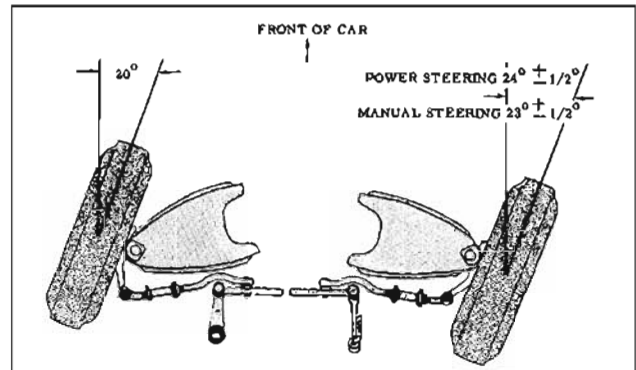

Fig. 9-33 Front Wheel Toe-Out
4. TOE-OUT (STEERING GEOMETRY) (Fig. 9-33)
TOE-OUT (STEERING GEOMETRY) (Fig. 9-33)